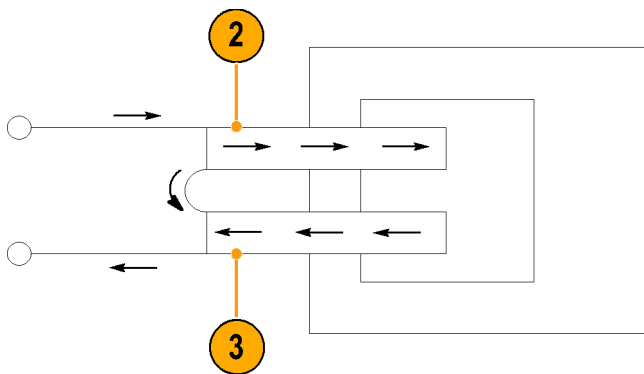

Figure 25: Turns measurement using reference coil
3. Insert the test coil into the current probe so that the currents oppose each other as shown. (See Figure 25.)